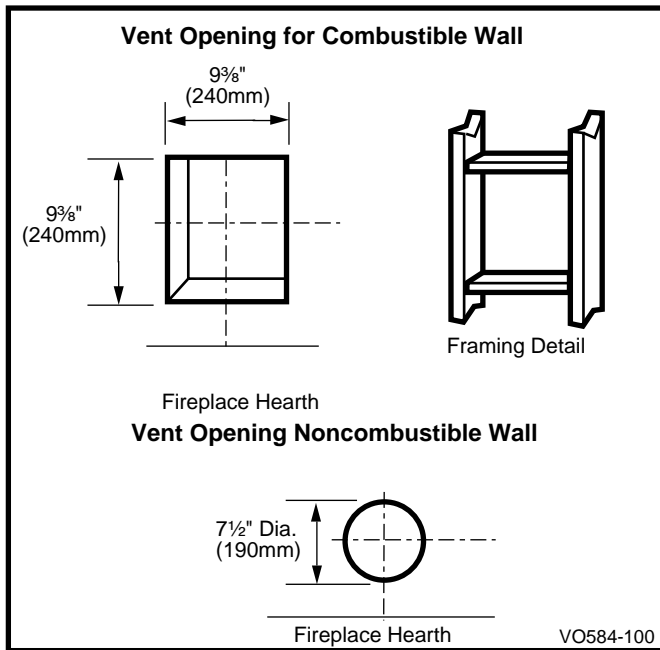

Fig. 31 Locate vent opening on wall.
Locate vent opening on the wall. It may be necessary to first position the fireplace and measure to obtain hole location. Depending on whether the wall is combustible or noncombustible, cut opening to size. (Fig. 31) (For combustible walls first frame in opening.)
**Combustible Walls:** Cut a 93/8"H x 93/8"W (240mm x 240mm) hole through the exterior wall and frame as shown. (Fig. 31)
1. Establish vent hole through the wall (Fig. 31)